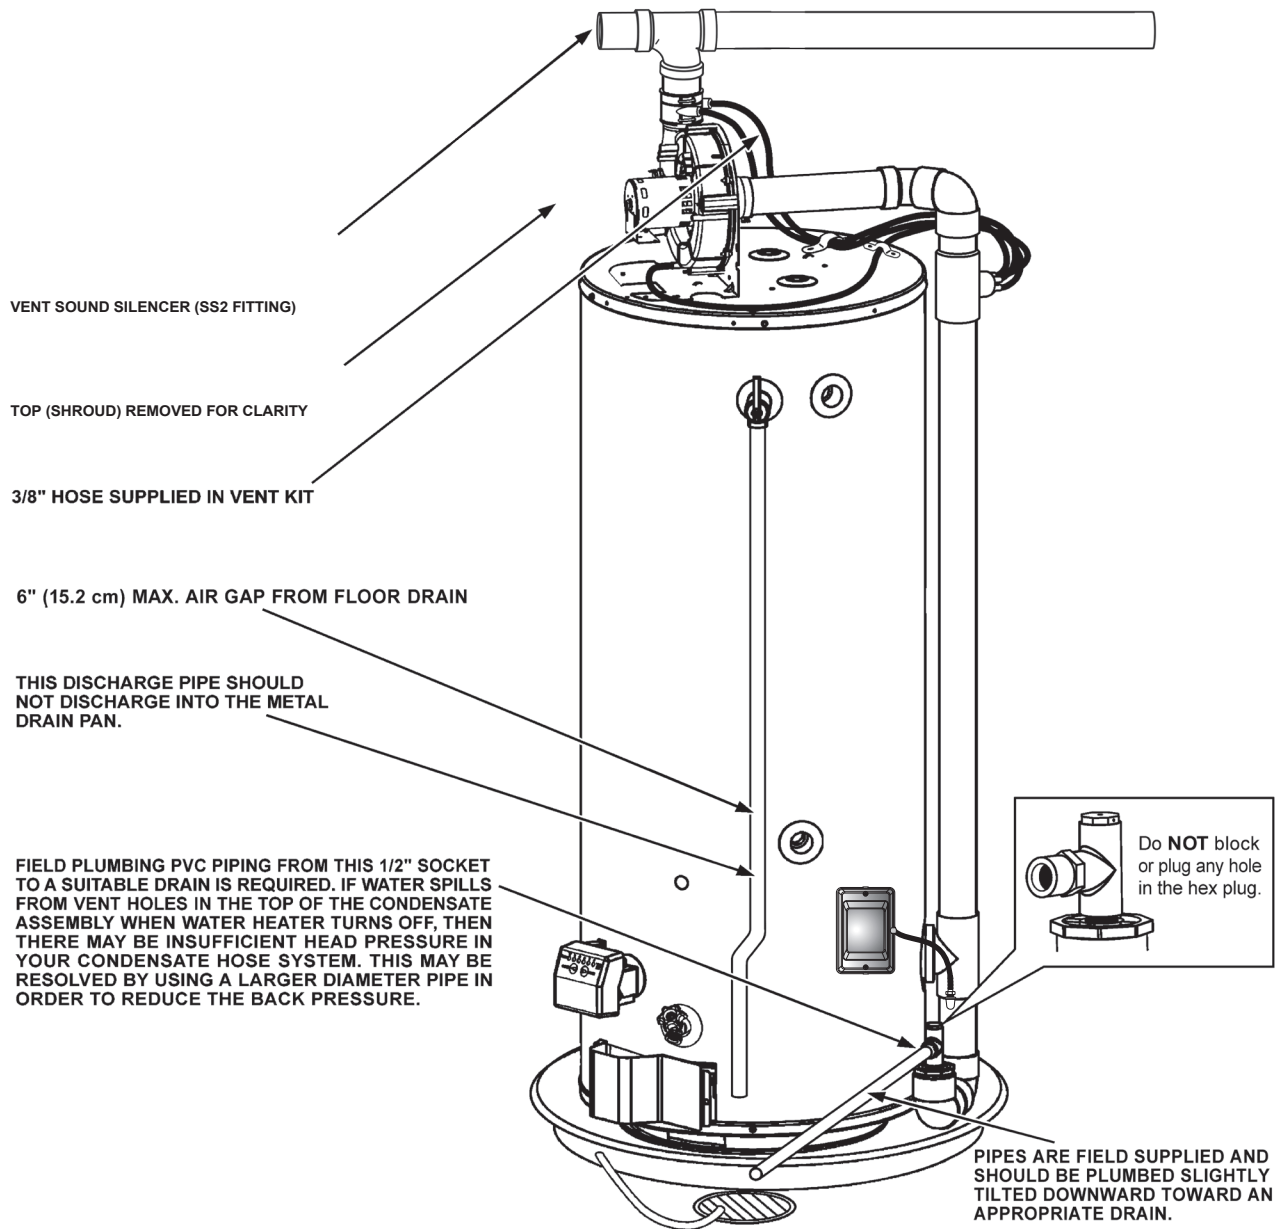

Figure 2. Features and Components - Left Side
5. Carefully plan the place where you are going to put the water heater. Correct combustion, vent action, and vent pipe installation are very important in preventing death from possible carbon monoxide poisoning and fires. See *Figure 1* (page 7), *Figure 2* (page 8), and *Figure 8* (page 14).
Installation of the water heater must be accomplished in such a manner that if the tank or any connections should leak, the flow will not cause damage to the structure. For this reason, it is not advisable to install the water heater in an attic or upper floor. When such locations cannot be avoided, a suitable drain pan should be installed under the water heater. Drain pans are available at your local hardware store. Such a drain pan must have a clearance of at least 1.0" (2.5cm) greater than any point on the water heater's outer jacket and must be piped to an adequate drain. The pan must not restrict combustion air flow. For example, if a circular pan is used, it must be a minimum of 27" (69cm) in diameter. See *Figure 1* (page 7) and *Figure 2* (page 8).
Should you choose to apply an insulation blanket to this heater, you should follow these instructions (For identification of components mentioned below. See *Figure 1* (page 7) and *Figure 2* (page 8). Failure to follow these instructions can restrict the air flow required for proper combustion, potentially resulting in fire, asphyxiation, serious personal injury or death.